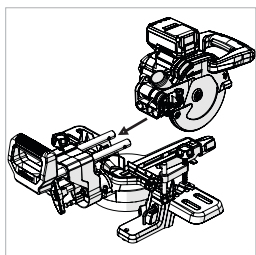

Fig. 13
- Align the cutting head with the two sliding carriage arms. (**Fig. 13**)